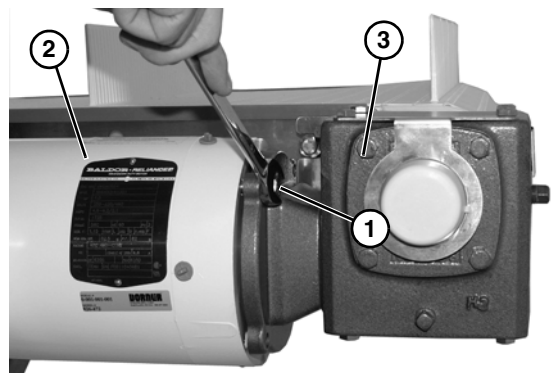

Figure 26
5. Remove four bolts (Figure 26, item 1) securing motor (Figure 26, item 2) to gear reducer (Figure 26, item 3).